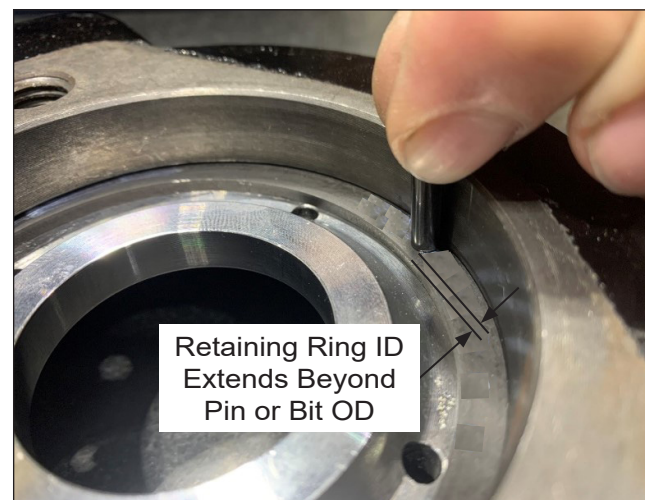

Figure 6 – Nonconforming Retaining Ring
- If the ID of the retaining ring extends beyond the OD of the dowel pin or drill bit, the retaining ring is not fully seated (refer to Figure 6). This indicates the gearbox is nonconforming according to the design specifications.